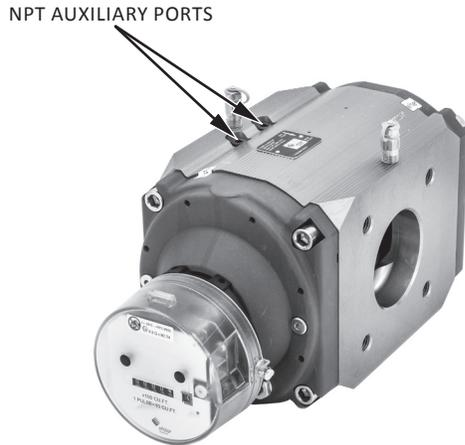

Figure 18. Auxiliary ports
All RABO meters come equipped with two (2) 1/4" NPT auxiliary ports on the meter body [Figure 18], which can be used for sensing pressure and temperature of the flowing gas. A thermowell is required when using a temperature sensing device. Thermowells are available as accessories to the meter.